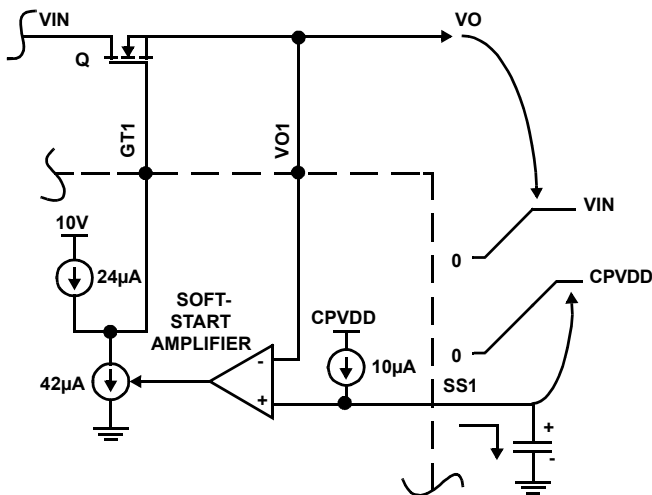

FIGURE 15. SOFT-START OPERATION
The output voltages are monitored through the Vo pins and slew up at a rate determined by the capacitors on the Soft-start (SS) pin, as illustrated in Figure 15. 24µA of gate charge current is available. The soft-start amplifier controls the output voltage by robbing some of the gate charge current thus slowing down the MOSFET enhancement. When the load voltage reaches its set level, as sensed by its respective UV pin through an external resistor divider, the Power Good (\overline{PG}) output goes active.
I_{INRUSH} is the sum of the DC steady-state load current and the load capacitance charging current. If the DC steady-state load remains disabled until after the soft-start period expires (PGX could be used as a load enable signal, for example), then only the capacitor charging current should be used as I_{INRUSH} . The C_{SS} value should always be more than $(1/2.4)$ of that of C_{ISS} of the MOSFET to ensure proper soft-start operation. This is because the C_{ISS} is charged from $24\mu\text{A}$ current source, whereas the C_{SS} gets charged from a $10\mu\text{A}$ current source (Figure 15). In order to make sure both V_{SS} and V_O track during the soft-start, this condition is necessary.